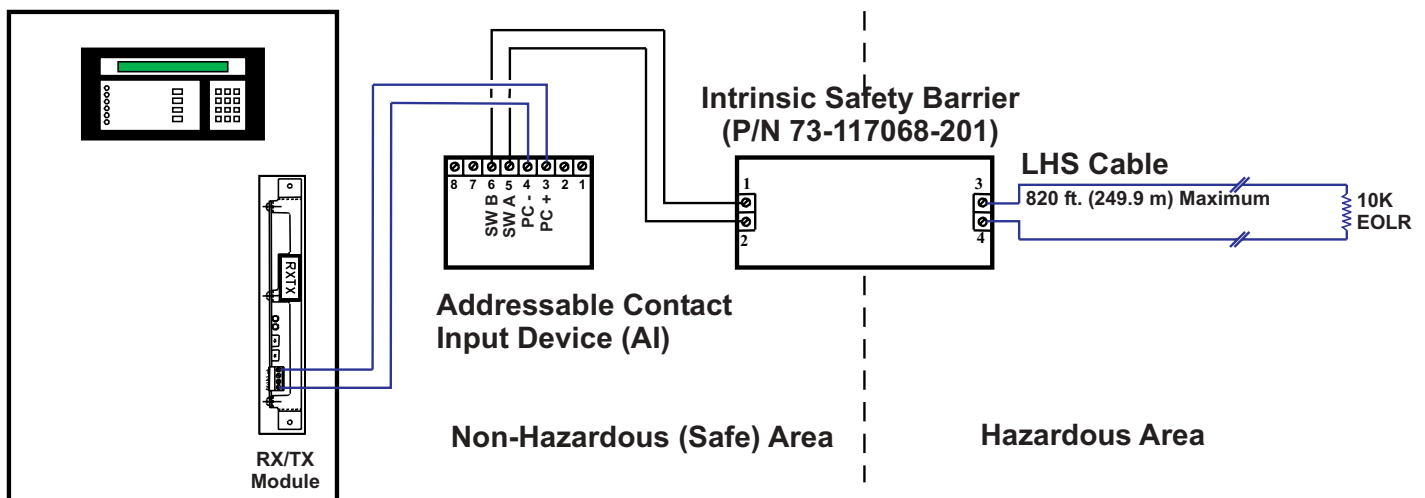

Figure 1. Typical Schematic Wiring Diagram
As shown in Figure 1, the Intrinsic Safety Barrier (P/N 73-117068-201) is used in Intelligent LHS applications where SmartOne® Addressable Contact Input Devices (AI) interface one circuit of the LHS cable to the FenwalNET™ 2000 Control Panel. Each Intrinsic Safety Barrier handles two conductors and hence only one Safety Barrier is required for each LHS circuit.